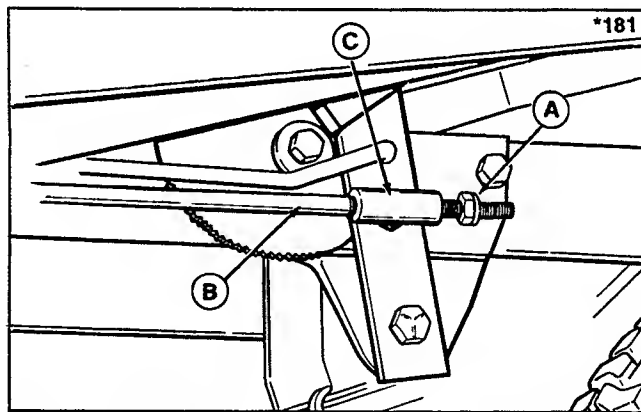

Figure 15. Brake Rod Adjustment
2. Pull forward on the brake rod (B, figure 15) to take up any slack. Set the nut (A) on the brake rod so there is 1/2 to 5/8 inch (12.7 to 15.8 mm) clearance between nut and rod guide (C).